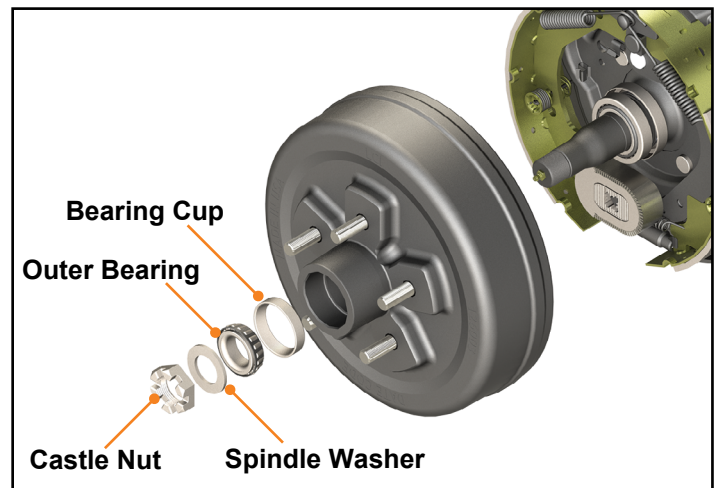

Fig.3
11. Pull brake or idler hub off of spindle as follows (**Fig.3**):